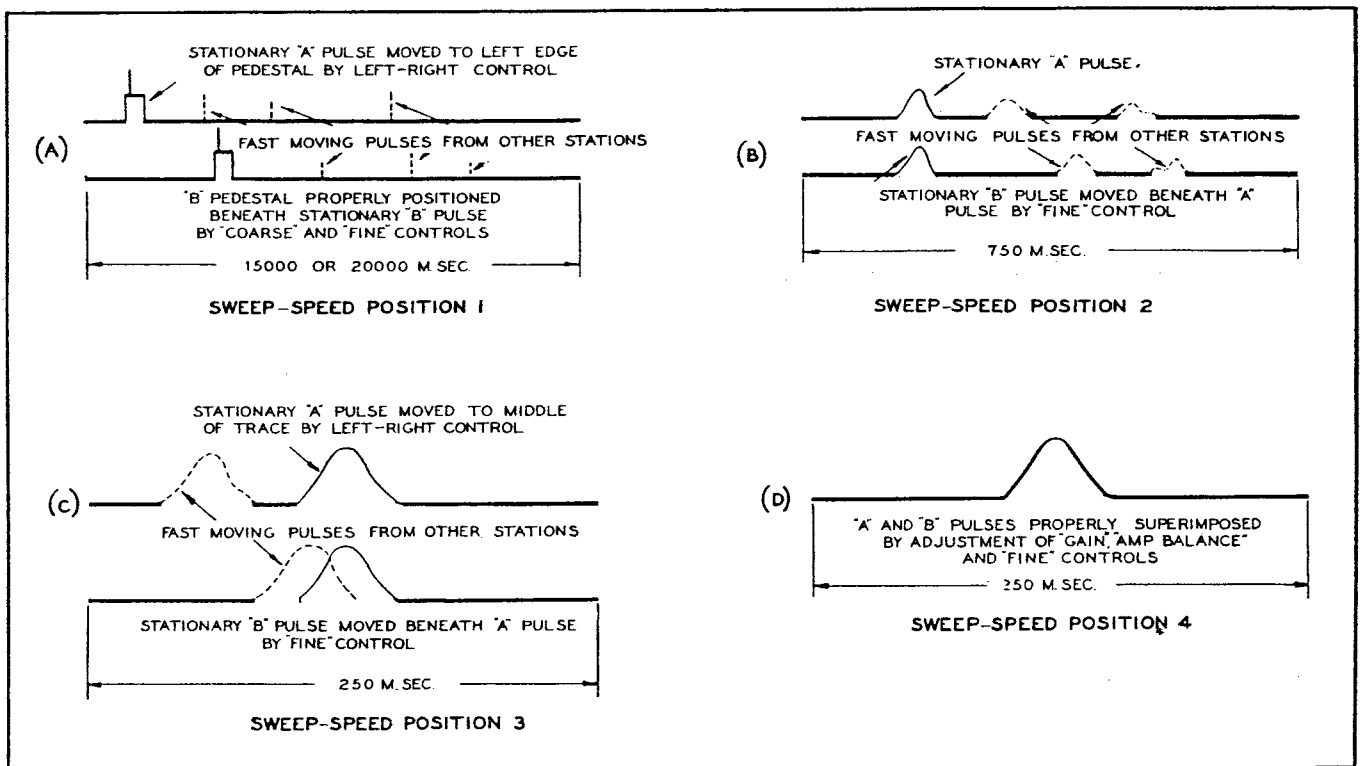

Figure 3-1. Received Pulses—Matching Procedure
c. MATCHING PULSES.—The received pulses will vary in form depending upon the path by which they are received. Figure 3-1 shows the nature of the pulse received by the ground wave. This pulse form does not change its shape and is always the first pulse to the left. Figure 3-2 shows examples of skywave reception.
d. EFFECTS OF GROUND WAVES AND SKY WAVES ON RECEPTION.—The received pulses (see fig. 3-1) are typical forms of ground (direct) waves. However, over long distances, especially at night, the received pulses are sky (reflected) waves. (See fig. 3-2.) A ground-wave pulse does not change in form and is al-
above the B-trace (see part A of fig. 3-1)] received from the selected stations, will stand still, or move very slowly, while any other pulses will drift at a faster rate to the left or right across the screen. In daytime operation, probably only one pulse will be seen from each station. If a group of two or more pulses appear close together, consider only the first pulse to the left.
(1) Turn the "COARSE" control, moving the B-pedestal until it is directly under the B-pulse. Adjust the "FINE" control until the extreme left end of the B-pedestal is under the B-pulse. (See part A, fig. 3-1.)
(2) Adjust the "AMP-BALANCE" control to vary the amplitude of the A- and B-pulse so that the two pulse forms will equal each other in height. Adjust the "GAIN" control to obtain suitable amplitude.
(3) Turn "SWEEP SPEED" to position "2;" two traces will again be visible. (See part B, fig. 3-1.) The pulses may still have a tendency to drift. Again adjust the "CRYSTAL PHASING" control to cause them to stand still. Turn the "FINE" control until the B-pulse is directly below the A-pulse.
(4) Turn "SWEEP SPEED" to position "3." The pulse forms will now appear as in part C of figure 3-1. Adjust the "CRYSTAL PHASING" control, moving the pulses to the right until they are in the approximate center of the trace line. Adjust the "FINE" control until the B-pulse is directly under the A-pulse.
(5) Turn "SWEEP SPEED" to position "4." Only one trace line will appear, and the two pulses will be superimposed or nearly superimposed upon each other. (See part D, fig. 3-1.) Adjust the "FINE" control until the leading edges of the pulses are superimposed.
Keep both pulses the same height by adjusting the "AMP. BALANCE" control. Adjust "FINE" control to bring the leading edges together. Adjust "GAIN" control to provide the desired pulse amplitude. Received pulses will vary in form, depending upon the path of radiation; i.e., ground or sky wave. Part D, figure 3-1, shows the received pulse using the ground wave. This pulse form does not change its shape and is always the first pulse to the left within a daytime range of approximately 600 miles and within a night time range of approximately 400 miles. The amplitude of the ground wave pulse will vary inversely with distance.
(a) Part A, figure 3-1, shows the effect of receiving many pulses, representing several reflected sky waves appearing at a slightly different time due to different angles of reflection. These pulses are referred to as a "TRAIN."